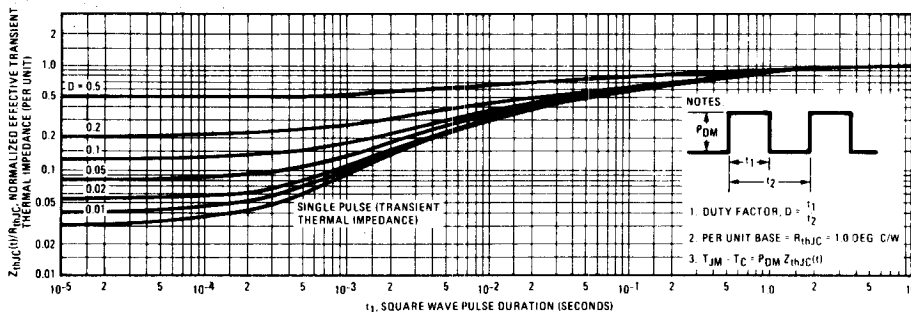

Fig. 5 - Maximum Effective Transient Thermal Impedance, Junction-to-Case Vs. Pulse Duration
① T_J = 25°C to 150°C. ② Pulse Test: Pulse width $\leq$ 300 μ s, Duty Cycle $\leq$ 2%.
③ Repetitive Rating: Pulse width limited by max. junction temperature. See Transient Thermal Impedance Curve (Fig. 5).